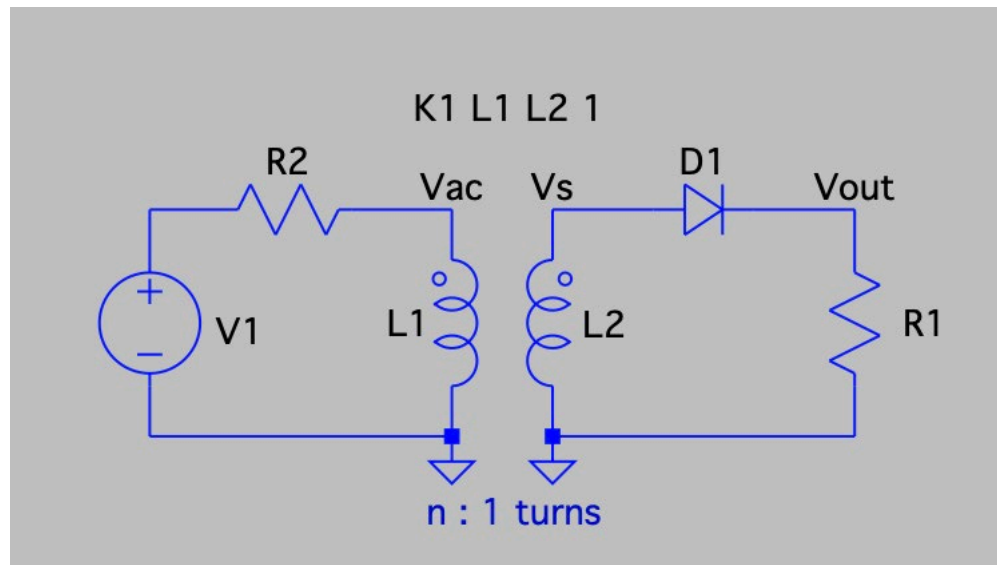

Figure 2. Half-Wave Rectifier
Draw the schematic shown in Figure 2.
- (4) Label the input and output voltages as shown in Figure 2.
- (5) Setup a Transient Analysis for 300ms, using 1us time step. But display the data after 150ms when the system has reached steady state. The statement that helps do this is **.tran 1us 300ms 150ms**
- (6) Using the measure statement below, find the average output voltage